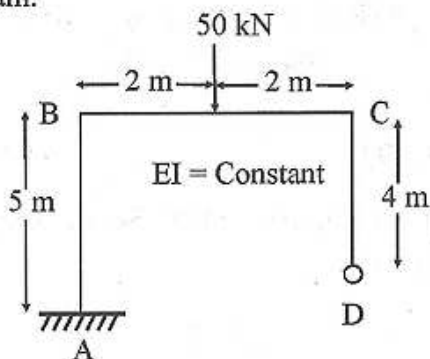

Fig. 2
3. Analyse the portal frame loaded as shown in Fig. 2 by slope deflection method and sketch the bending moment and shear force diagram. (15)